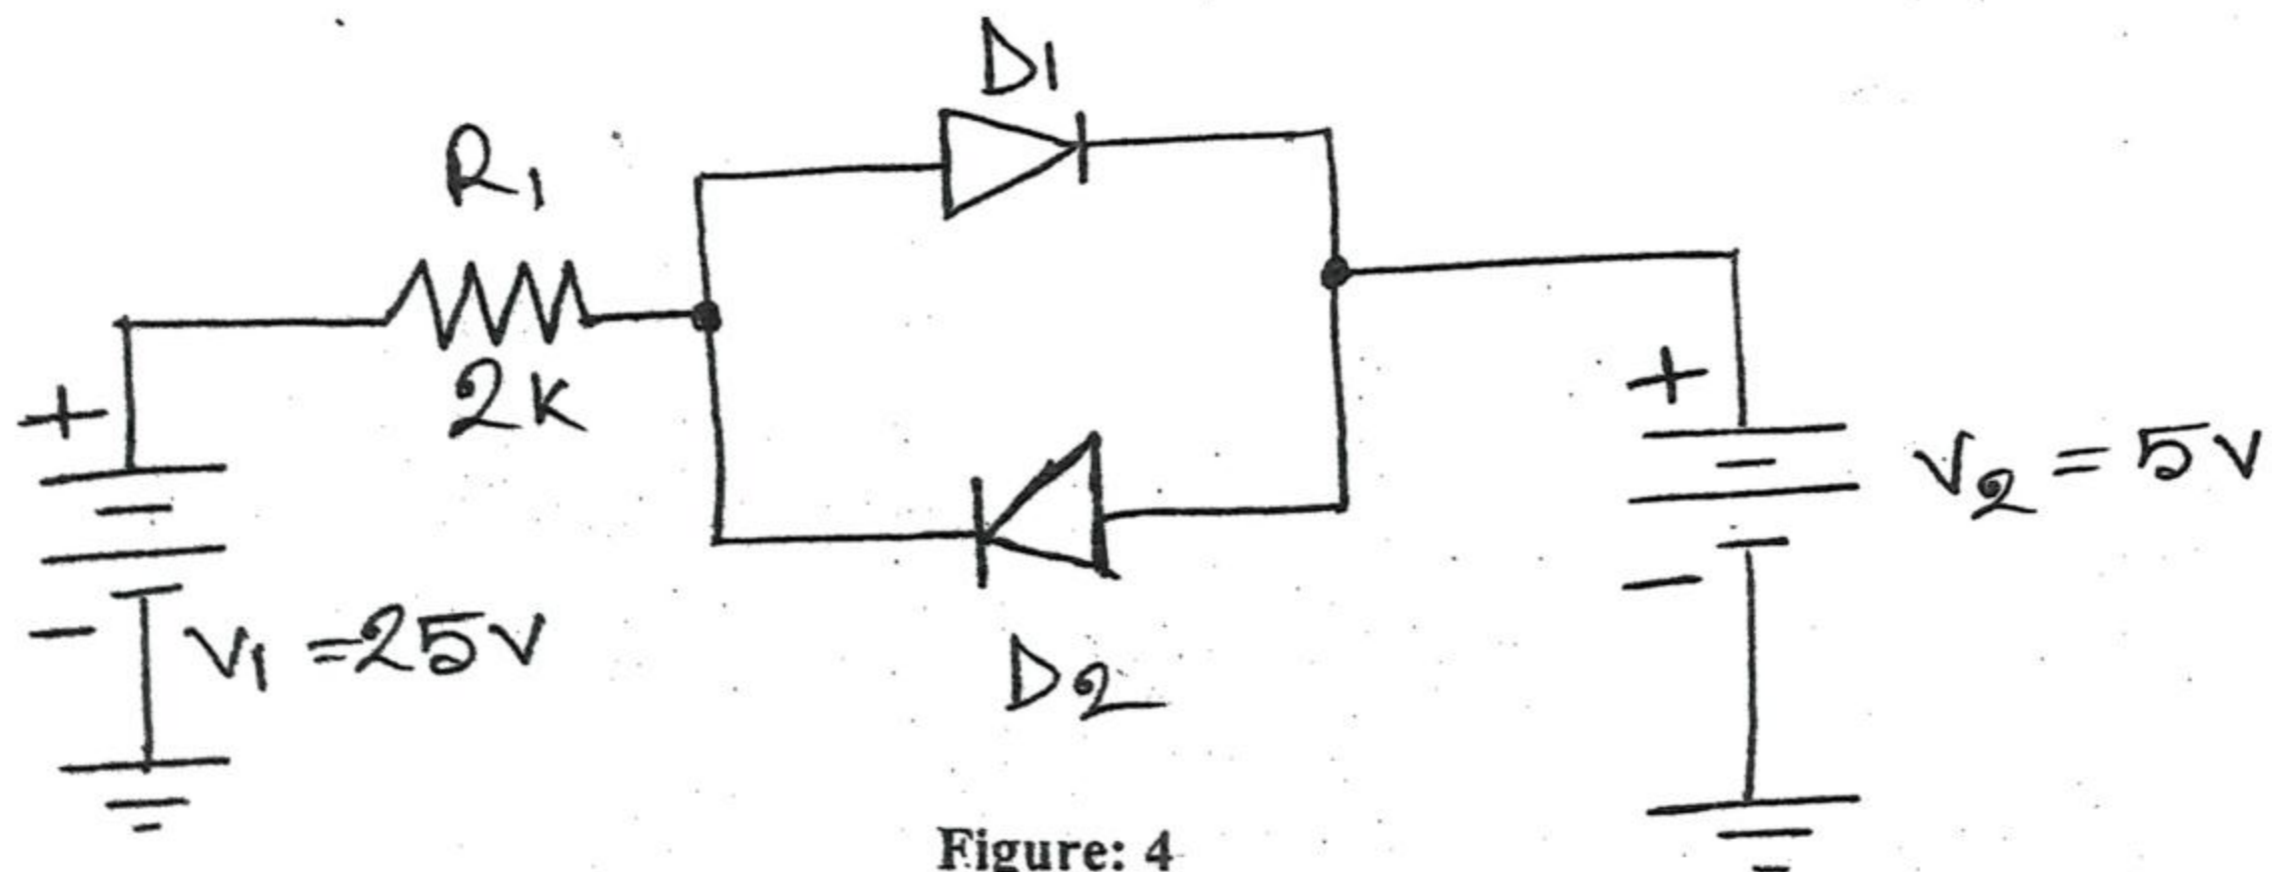

Figure: 4
9. a) Determine the current I in the circuit shown in Fig.4 Assume the diodes to be of silicon and forward resistance of diodes to be zero. 3